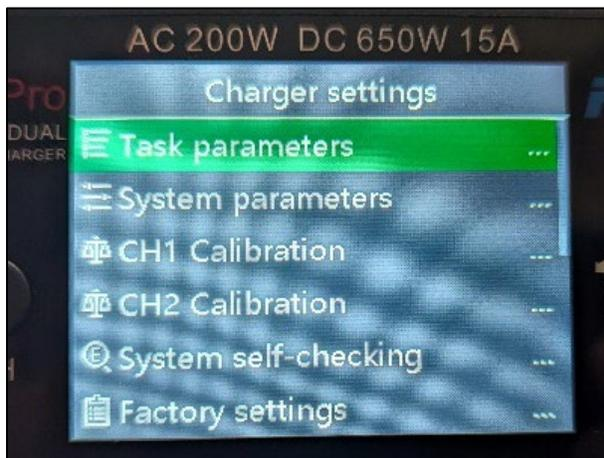

Figure 143 Task Parameters
1. Long press the red selector wheel until the menu in **Figure 143** appears.